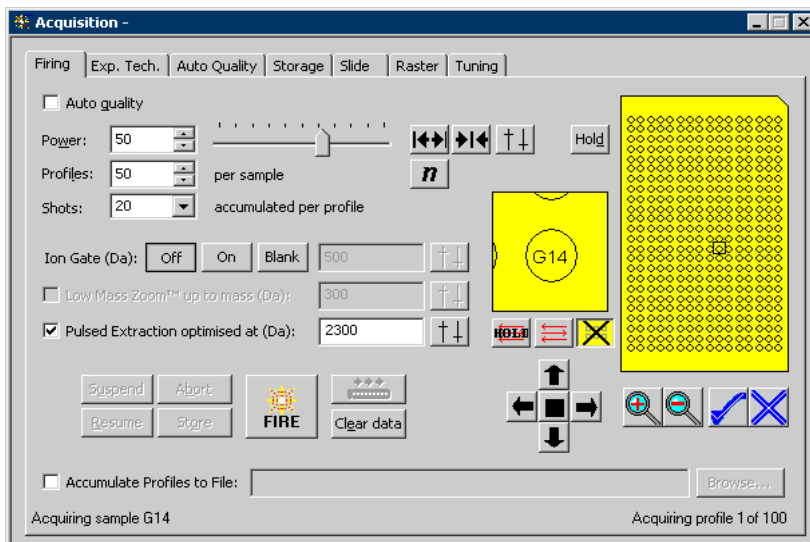
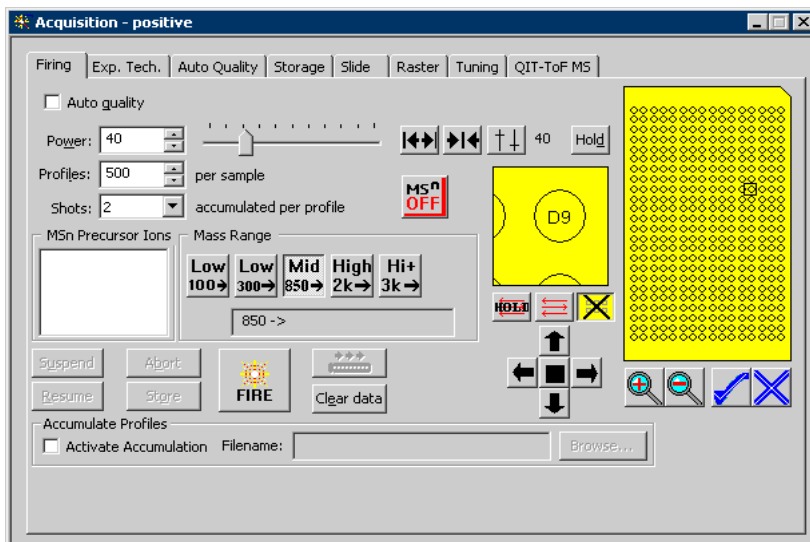

Figure 14.4 Laser "Firing" on the Axima Performance
Figure 14.5 Laser "Firing" on the Axima Resonance
- The precursor ion may also be specified and altered by double clicking on the precursor ion list in the laser firing window (see Figure 14.5 on page 142).
Data collection is controlled via the laser "Firing" tab of the Acquisition dialogue (Figure 14.4 and Figure 14.5) initiated from the **Instrument** "Acquisition" option on the base window see Figure 14.1 below.
Well A1 is towards the upper right hand corner of the plate and H12 towards the bottom left. In Figure 14.4 only two wells (A1 and B1) are selected, indicated by the well being block filled. Individual wells are selected and de-selected using the left mouse button. All wells can be selected or all de-selected using the  buttons.